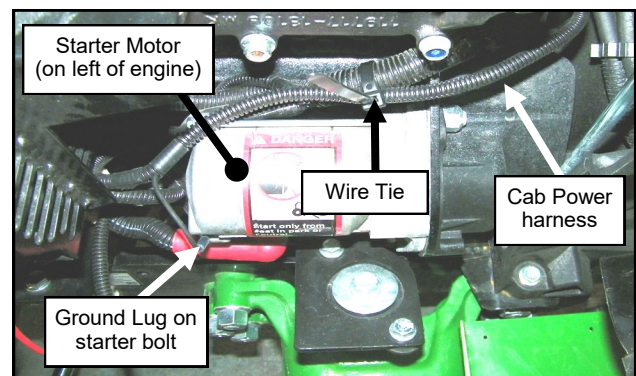

Fig. 7.4 (Connect to Ground Terminal)
- 7.4 Unbolt the lower bolt on the starter and re-secure with the ground terminal on. See Figure 7.4.